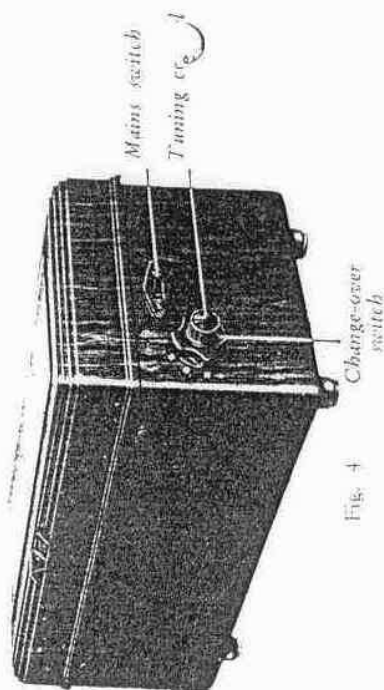

Fig. 4
When switching on the receiving set for the first time by pushing forward the mains switch (see fig. 4), the following points should be borne in mind:
- 1) Set the change-over switch (see fig. 4) at one of the waveband positions and the local-distance switch (see fig. 5) at position "1". If no reception can be obtained, the two-pin mains plug must be reversed in the wall-socket. The plug has a dash on one side. Once the right position has been found the wall-socket can be marked accordingly, in order that the plug may in future always be correctly inserted. The correct position depends upon the polarity of the supply.
In order to switch on the apparatus, push forward the mains switch (see fig. 4).
Set the change-over switch (see fig. 4), which is mounted on the same axle as the tuning control, at one of the following positions:
In order to tune in a station, first turn the volume control (fig. 5) as far as it will go in the direction of the arrow and then turn the tuning control (see fig. 4) until a station is received.